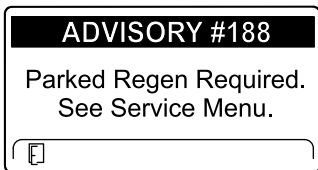

Figure 76
- Parked regeneration required ADVISORY #188 (Figure 76)